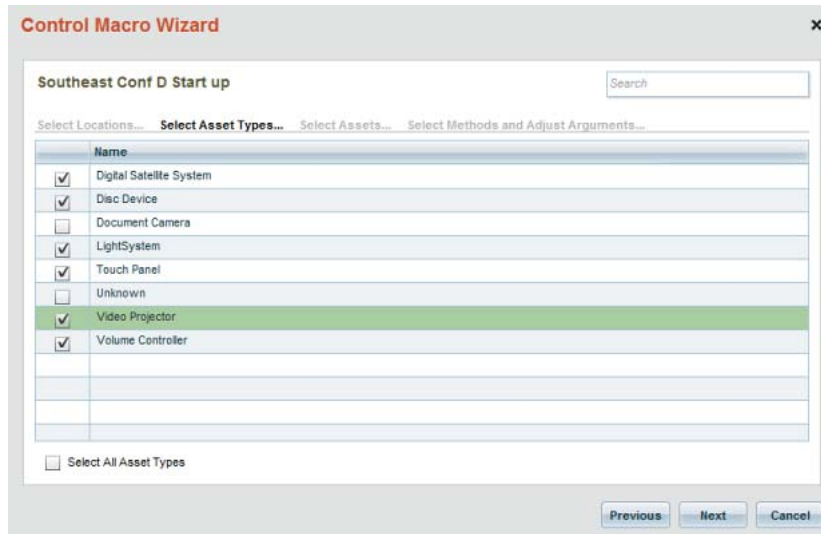

FIG. 279 Control Macro Wizard - Select Asset Types
- Select one or more Asset Types to be included in this control macro (FIG. 279).